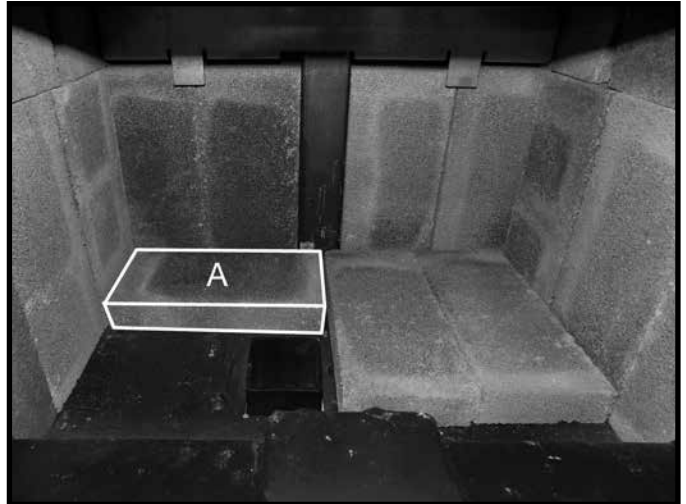

Figure 33: Third floor brick in place.
- Place a third "A" firebrick against the rear wall as shown in (Figure 33).on page 29